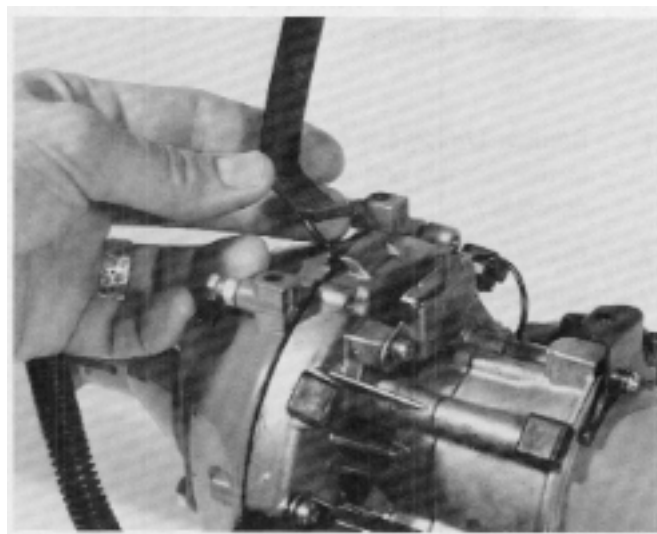

Figure 37
1. With the fan housing loosely secured to the crankcase, slip the fuel tank strap into its slot on the underside of the engine. Tighten evenly the four phillips screws retaining the fan housing to the crankcase to .4 to .5 kg m (35 to 43 in lbs). See Figure 37.